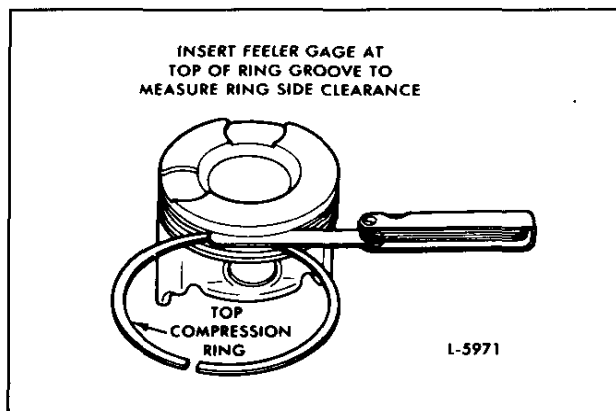

Fig. 5 - Measuring Piston Ring Side Clearance
4. Each compression ring must be checked for side clearance in its respective groove by inserting the feeler gage between the ring and its upper land (Fig. 5). The piston grooves must be cleaned before checking ring for side clearance.